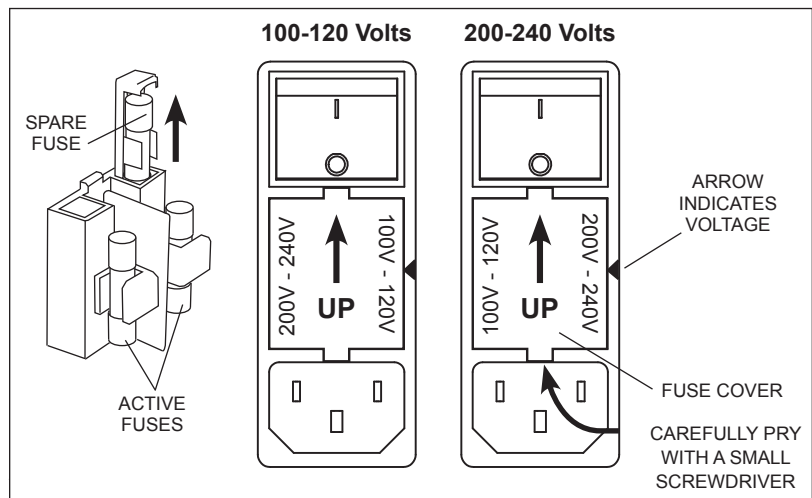

Figure 8
- Orient the fuse cover so that the arrow points toward the correct voltage for your region as shown in Figure 8.